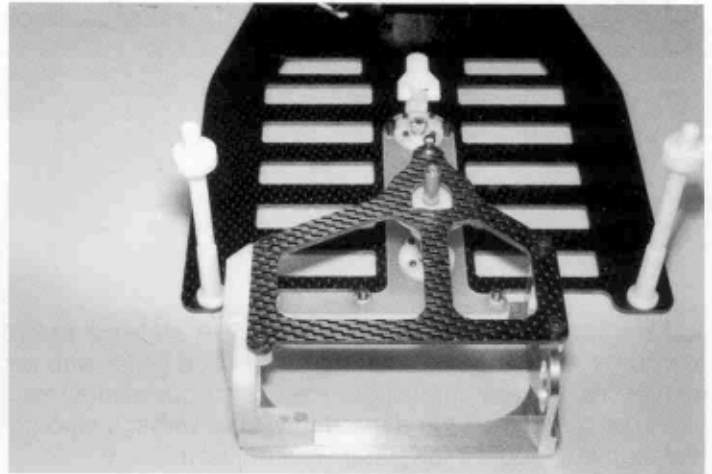

Fig. 37
□ **Fig. 37**— Mount the #8201 graphite upper bracket onto the rear end with the four allen head screws.